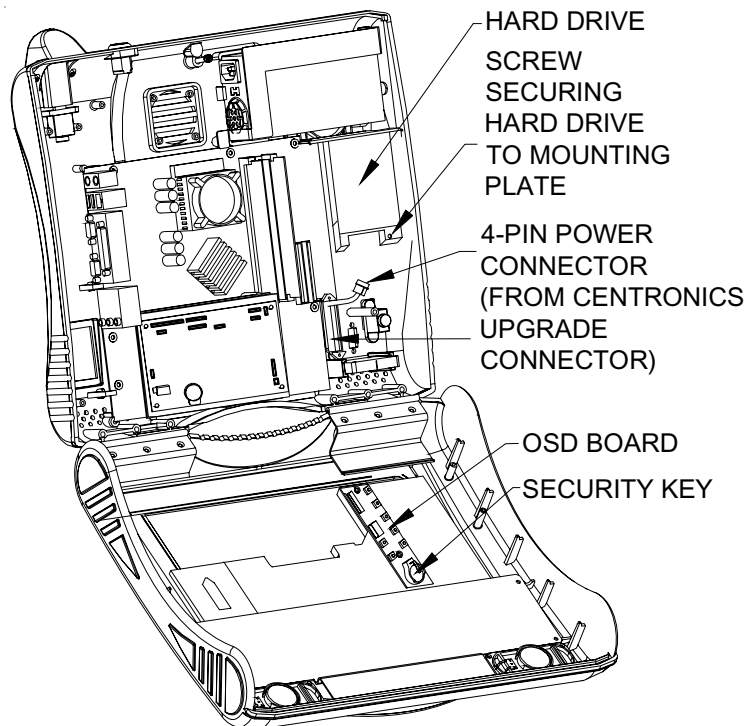

FIGURE 7 - EVO, EVO WALLEETTE/ENTERTAINER, AND ELITE EDGE OPENED CPU SECTION
- 8b. Remove the screw securing the hard drive mounting bracket to its mounting plate (see Figure 7). Remove the hard drive from its mounting plate by sliding the assembly down and off the plate.
- 8c. Locate the 4-pin connection from the Centronics upgrade connector inside the game (see Figure 7). Disconnect this 4-pin connection and connect each of the mating connectors on the provided EC0391 harness to these two 4-pin connectors (see Figure 5).
- 9b. Remove the screw securing the hard drive mounting bracket to its mounting plate (see Figure 7). Remove the hard drive from its mounting plate by sliding the assembly down and off the plate.
10. If you are installing a security key, locate the key (the button-shaped disc with the handle) on the OSD board (see Figure 7). Remove the existing security key from the OSD board by sliding it out of place. Slide the new security key into place.